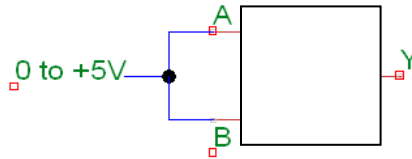

Figure 4. Voltage Schematic
- [PL8] Using the schematic of Figure 4, plot a curve of what the output at Y will be with an input range of 0-5V.